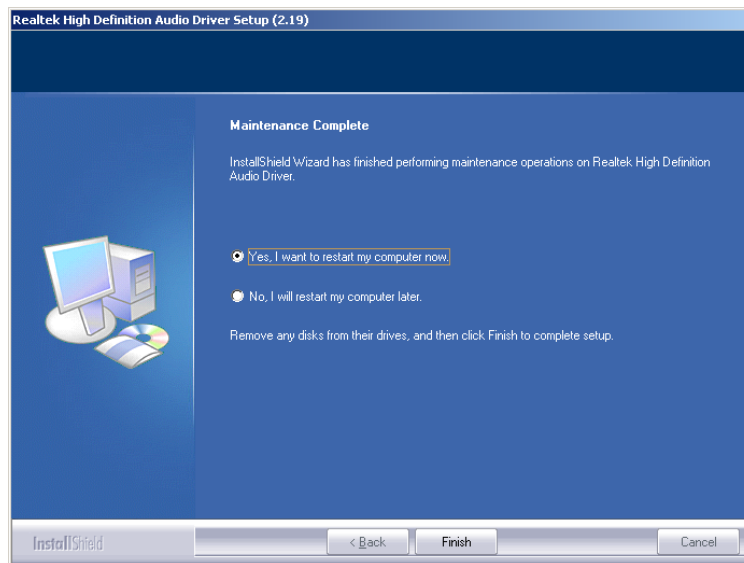

Figure 6-23: Restart the Computer
Step 10: After the driver installation process is complete, a confirmation screen appears (Figure 6-23).